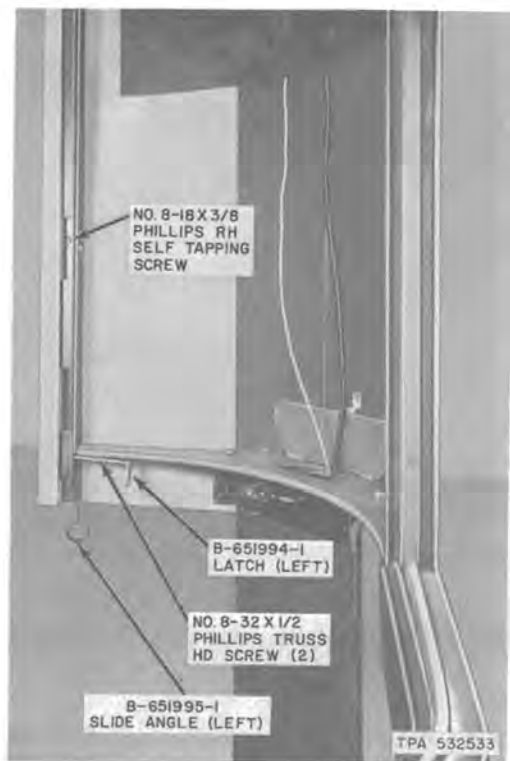

Fig. 23—Apparatus For Securing Panels
- 3.10 Access to the circuit breaker, ground lug, and mounting holes for the 123A1A protector is obtained by removing the lower left inside wall panel as follows (Fig. 23):
- (b) Remove the No. 8-18 by 3/8 Phillips RH self-tapping screws (Fig. 23) located along door facing.